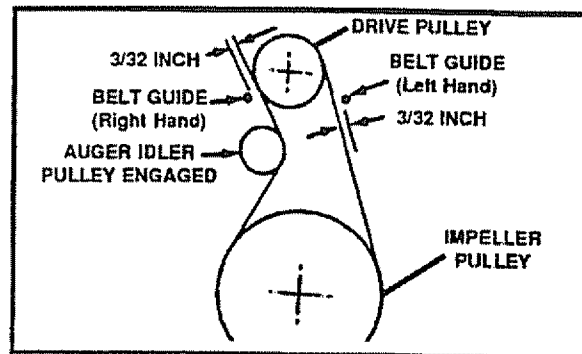

FIG. 28
- Loosen the auger idler pulley (See Fig. 28) and slip the belt out.
- Measure the distance between the belt guides and the belt (See Fig. 28). The distance should be $3/32$ " for each guide.